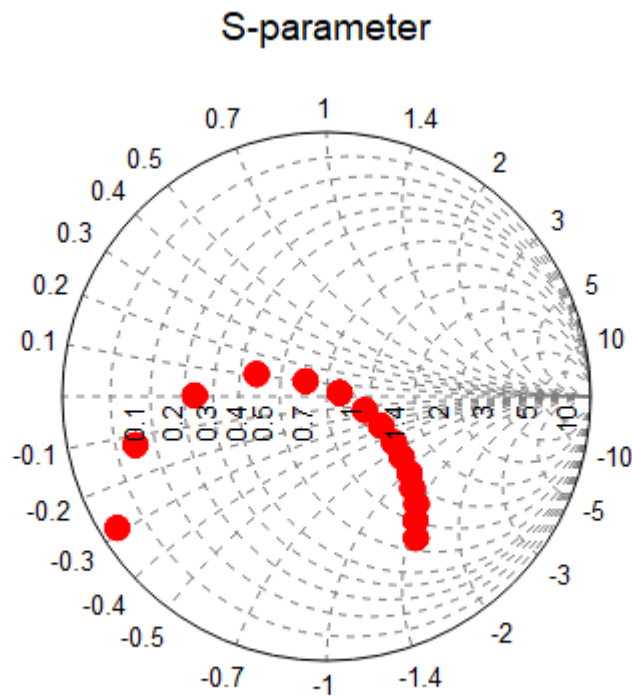

Figure 131: Smith chart showing the reflection coefficient for each feed pin position.
- a) The port is optimally matched when the magnitude of the reflection coefficient is as small as possible or the input impedance is equal to 50Ω . This condition is roughly met at iteration 6, see Figure 131. This corresponds to a feed position given by